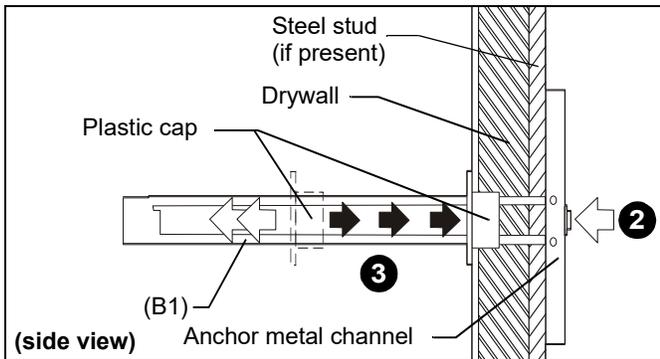

Figure 63
2. Holding plastic straps on anchor (B1), pull anchor away from wall until channel rests flush behind wall making sure anchor channel is positioned vertically on drywall, or steel stud (if present). (See Figure 63)
3. Slide plastic cap on anchor (B1) towards wall until flange of cap is flush with wall. (See Figure 63)